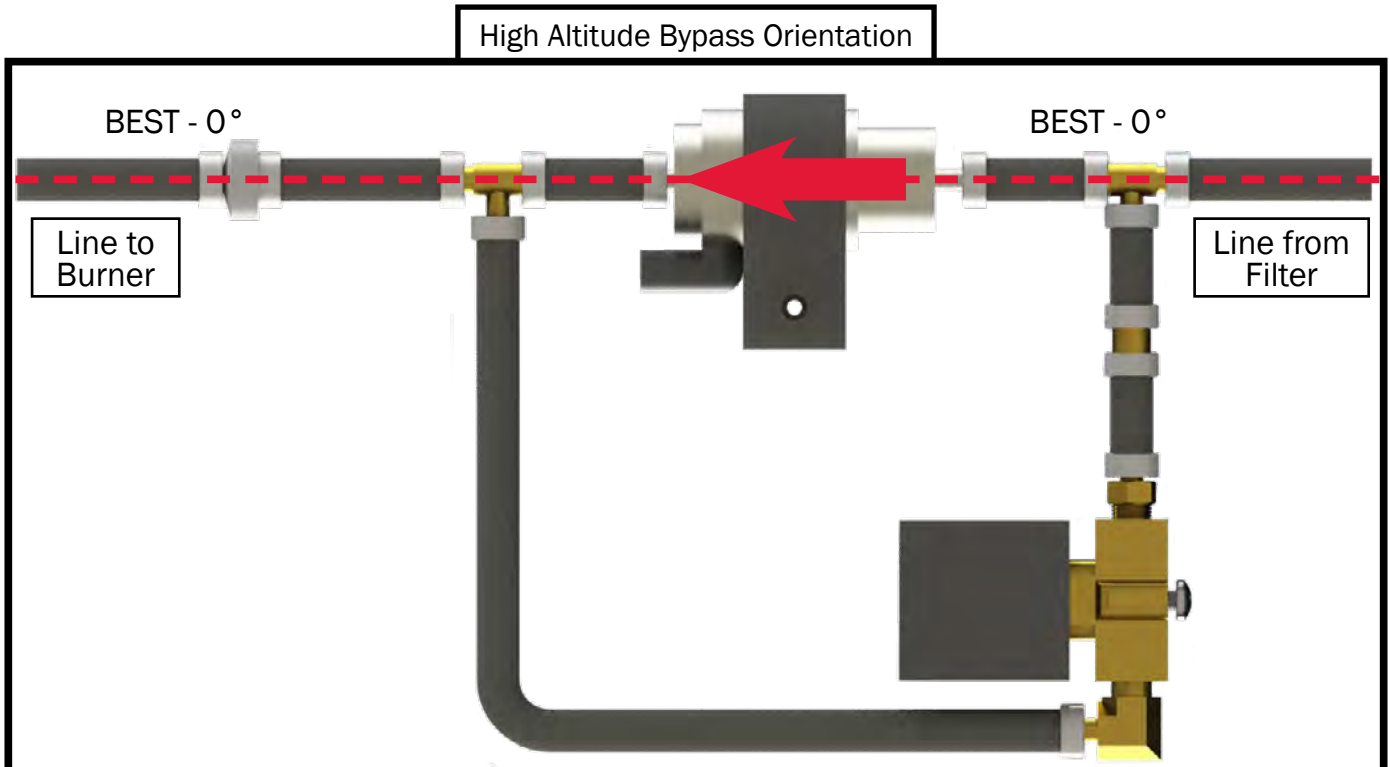

Figure 93
- Fuel Pump is required to be installed horizontally. It is not recommended to mount the assembly rotated 180° (see Figure 93).